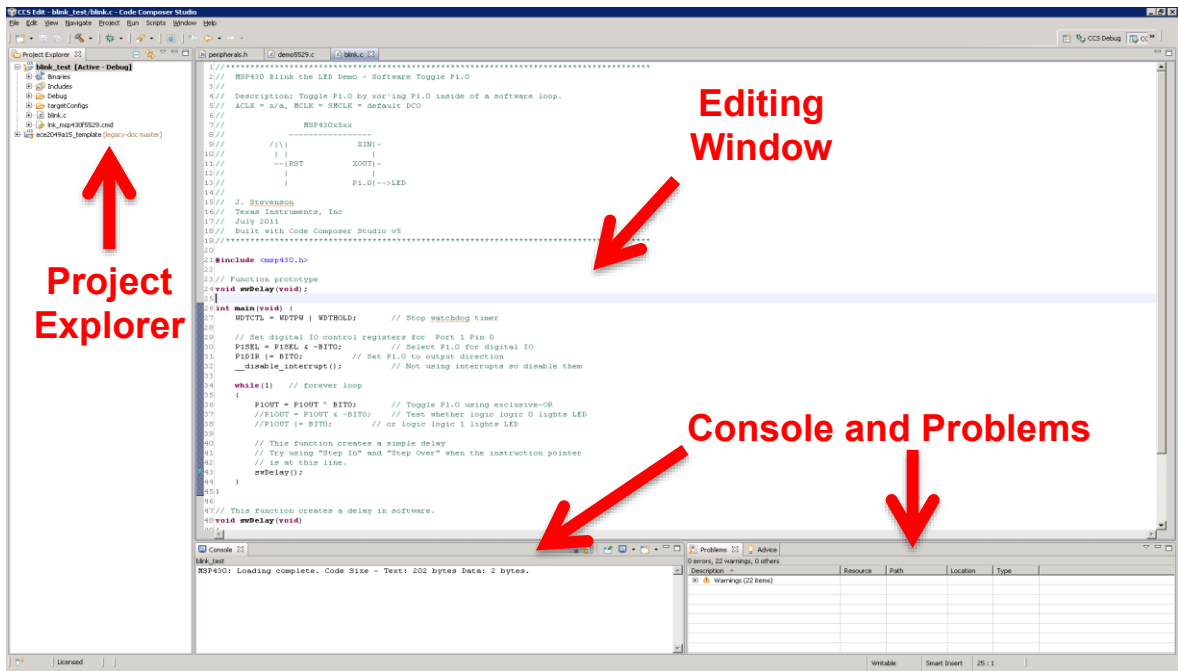

Figure 2: CCS Edit Perspective
7. CCS groups windows into different “perspectives” for different tasks. At startup, CCS will be in the **Edit Perspective**, which is designed for editing and compiling your code. In the Edit perspective, CCS should look like Figure 2.